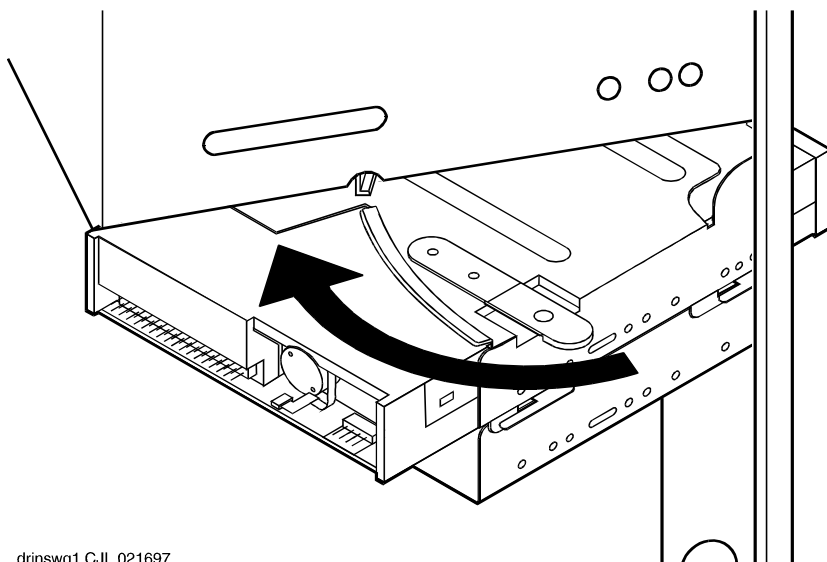

Figure 6-14. Installing the Peripheral Frame
6. Align the peripheral frame so that the bracing lip on the MAP/5P chassis is below the guide on the peripheral frame (Figure 6-14).